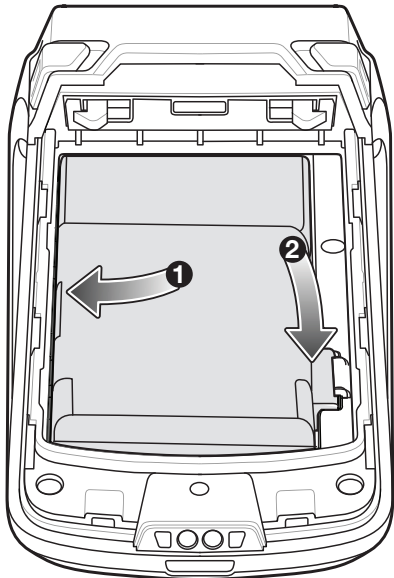

Figure 1-5 *Inserting the Battery*
3. Align the three tabs on the bottom of the battery (*Figure 1-5*) with the three slots in the battery compartment.